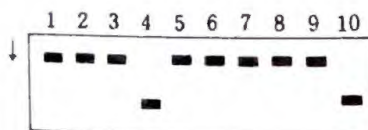

Fig. 5-2-8
- Change the plotter's switch setting to that shown in Fig. 5-2-8.